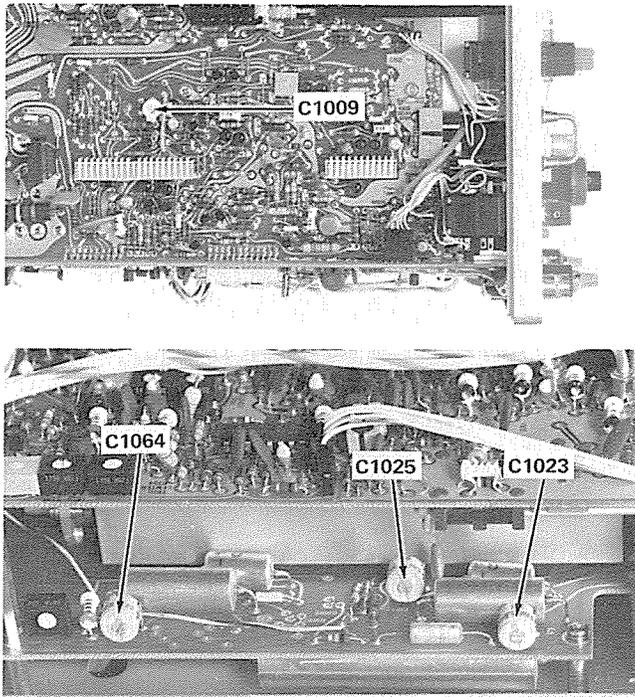

Fig. 5-25. Location of A and B Sweep timing adjustments.
d. ADJUST—C1064 (see Fig. 5-25) with a low-capacitance screwdriver, for 1 time marker/division.
g. ADJUST—C1023 (see Fig. 5-25) with a low-capacitance screwdriver, for 1 time marker/division.
d. ADJUST—C1025 (see Fig. 5-25) with a low-capacitance screwdriver, for 1 time marker/division.
n. ADJUST—C1009 (see Fig. 5-25) with a low-capacitance screwdriver for 1 time marker/division.